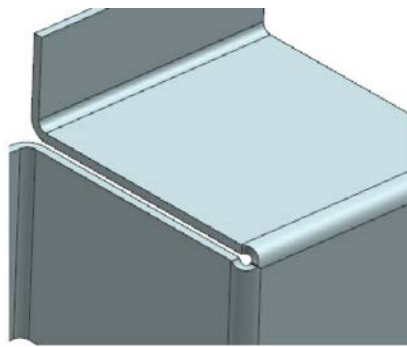

Figure 14-132 Partial view of the part after closing the corner
4. Choose the **OK** button to close the corner. The part after closing the corner is shown in Figure 14-132.